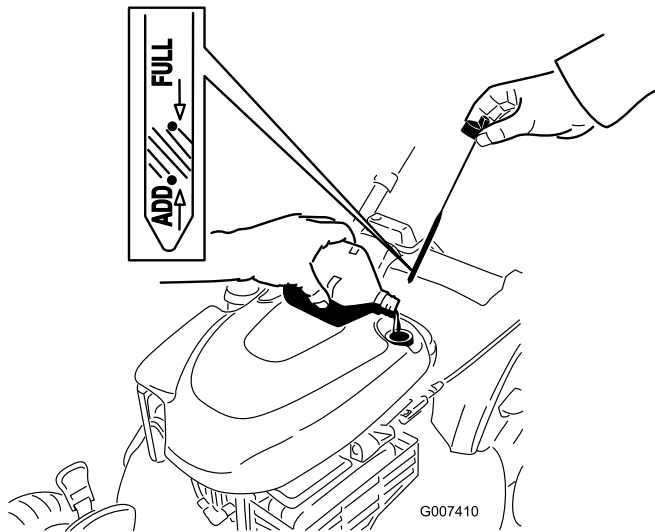

Figure 17
1. Remove the dipstick, wipe it clean, and fully install the dipstick (Figure 17).
2. Remove the dipstick and check the oil level (Figure 17). If the oil level is below the **Add** mark on the dipstick, slowly pour oil into the oil fill tube to raise the oil level to the **Full** mark on the dipstick. **Do not overfill.** (Max. fill: 0.6 l, type: SAE 30 detergent oil)